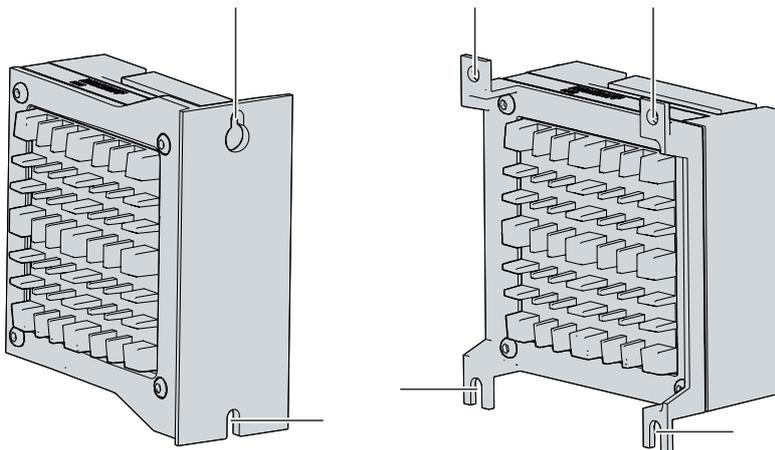

Fig. 15: C6015 _Mounting plates for control cabinet installation
2. Hang the PC onto the screws at the marked points on the mounting plate (see Fig.15).